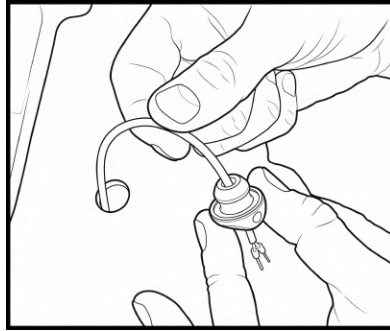

Fig. 38
3.13 Install the rubber seal onto the magnet cable by pressing the cable into the longitudinal slot. (**Fig. 38**)